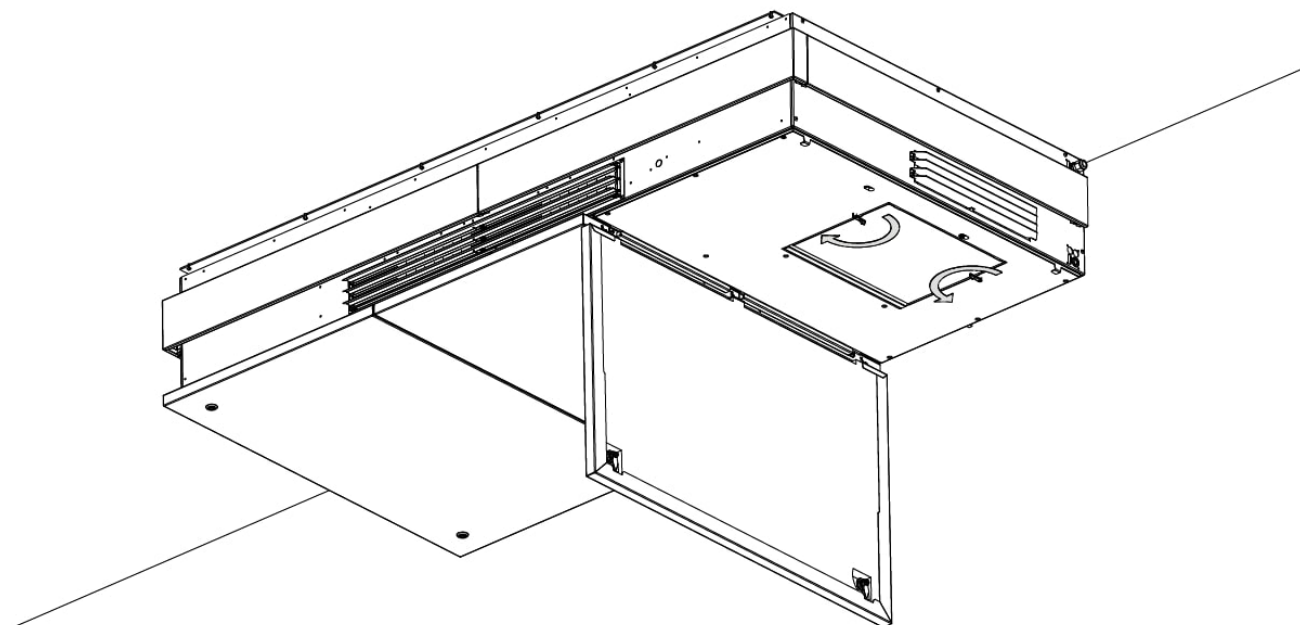

Figure 24: Open the filter hatch
2. Open the filter hatch, see Figure 24.